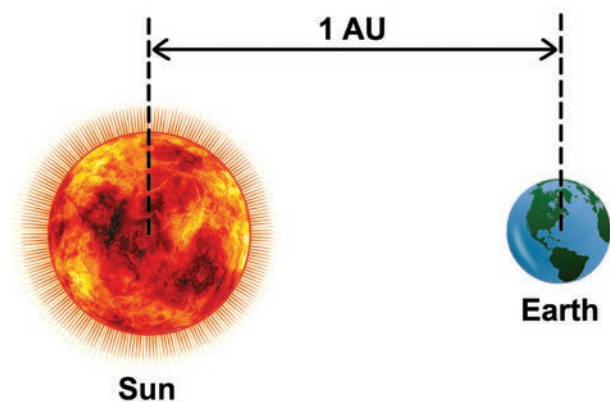

Figure 1.1 Astronomical unit
Astronomical unit (AU): It is the mean distance of the centre of the Sun from the centre of the Earth. $1 \text{ AU} = 1.496 \times 10^{11} \text{ m}$ (Figure 1.1).